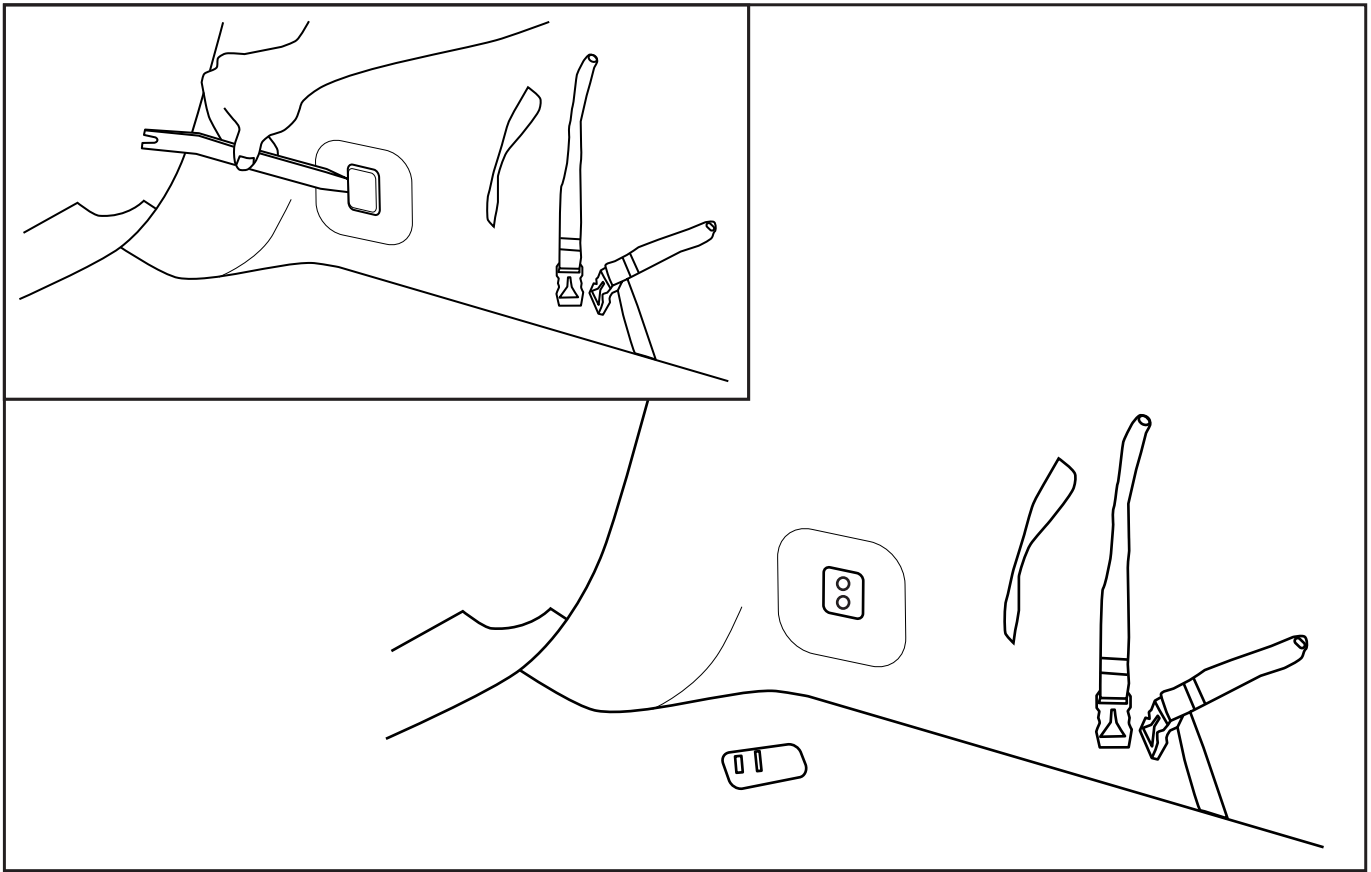

Fig. 2
3. Remove plastic covers from both sides of the trunk (Fig. 2).